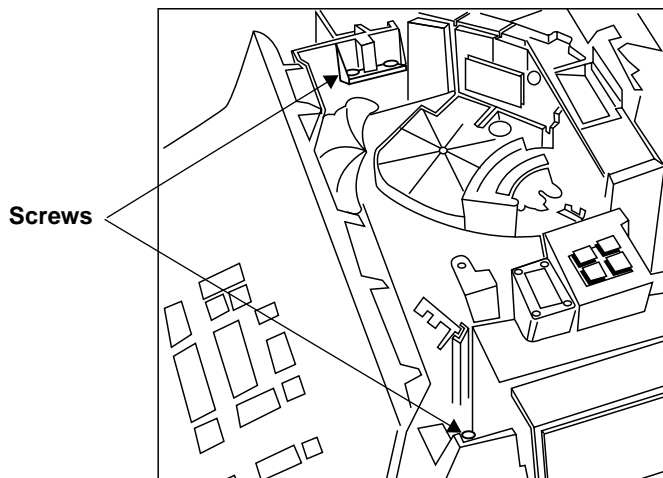

Figure 5-14. Removing Keyboard Cover
3. Loosen the two screws behind the top of the keyboard cover. Lift and remove the keyboard cover. See Figure 5-14.